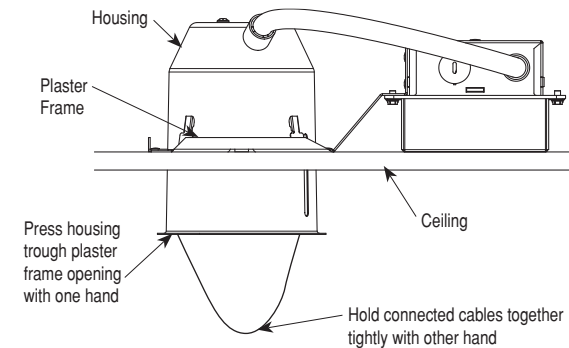

Fig. 3
4. Place plaster frame on upper surface of ceiling, and align the four tabs with ceiling hole. Grasp connected cables with one hand and press housing through plaster frame opening with other hand as shown in figure 3.